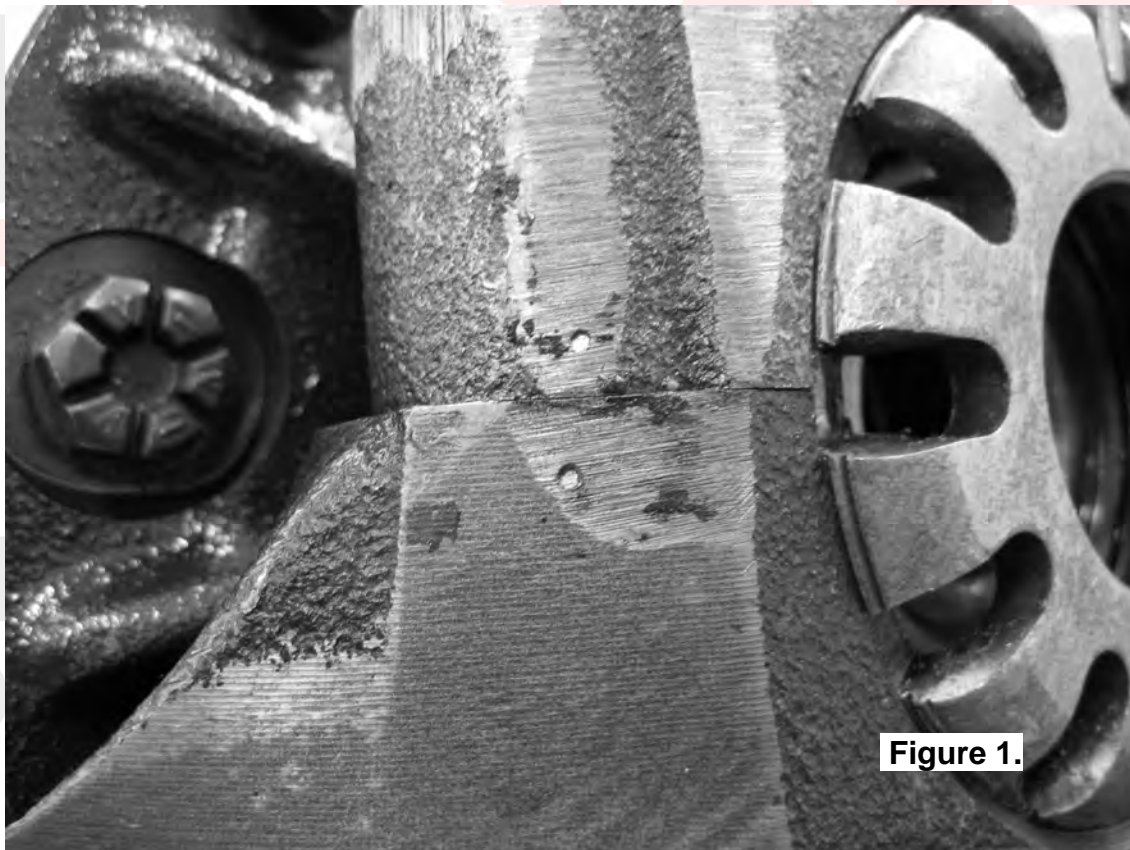

Figure 1.
- Using a small pointed center punch, gently mark the bearing caps in a way that will enable you to know which cap is 'LEFT' and which cap is 'RIGHT', which way is 'UP' and which way is 'DOWN'. (Fig.1.)